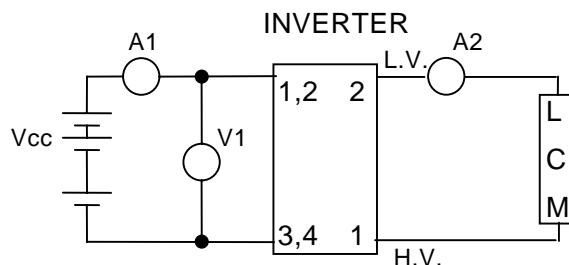

Fig.1 Wiring
- (1) All characteristics are measured by our certain test equipment. The measurement of condition should be stable lighting (more than 30 minutes after startup :at 25+/-1 deg and no breath of wind) (The measurement of input rush current is exception.)
- (2) The electrical characteristics are measured as we show on measurement diagram fig.1. $V_{cc}=12V$.
- (3) As we show on measurement diagram fig.1, the test equipment shall be V1:DC Volt meter (Class0.5) A1:DC Current meter(Class0.5) A2:AC Current meter type2016(Y.E.W) or FLUKE45(FLUKE) V_{cc} :DMS35-2.3(Metronix) .
- (4) The line length of between the lamp and 1pin of CN2(high voltage side) is less than 150mm. The line length of between the lamp and 2pin of CN2(low voltage side) is less than 400mm.